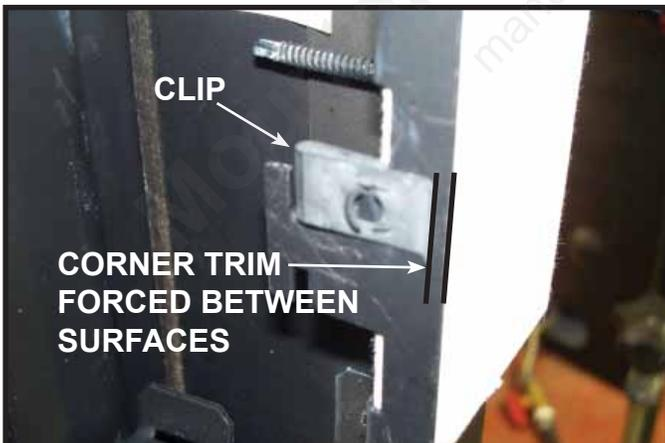

Figure 9. Clip Location.
9. Install four retainer clips (included) as shown in Figure 9. Outside corner trim piece will be forced into clip on front of fireplace. See Figure 10 and Figure 11.